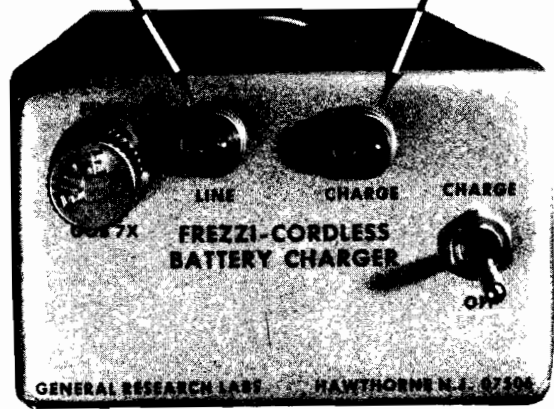

FIGURE 15
- c) Turn the toggle switch to the "ON" position. At this time, the amber and red bulb should be on. When the battery is fully charged, the red bulb should be fully off. See Figure 15.